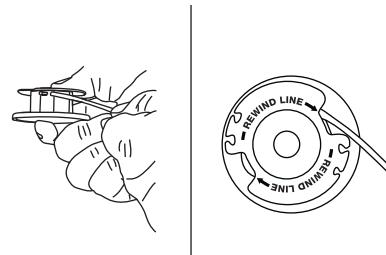

Fig. 16
4. Take approximately 12 feet (3.6 m) of new trimming line and insert one end of the line into the hole at the top of the inner reel (Fig. 16).
5. Wind the line, in even and tight layers, onto the reel (Fig. 16). Wind the line in the direction indicated on the inner reel.
6. Insert the end of the line into one of the holding slots (Fig. 16).